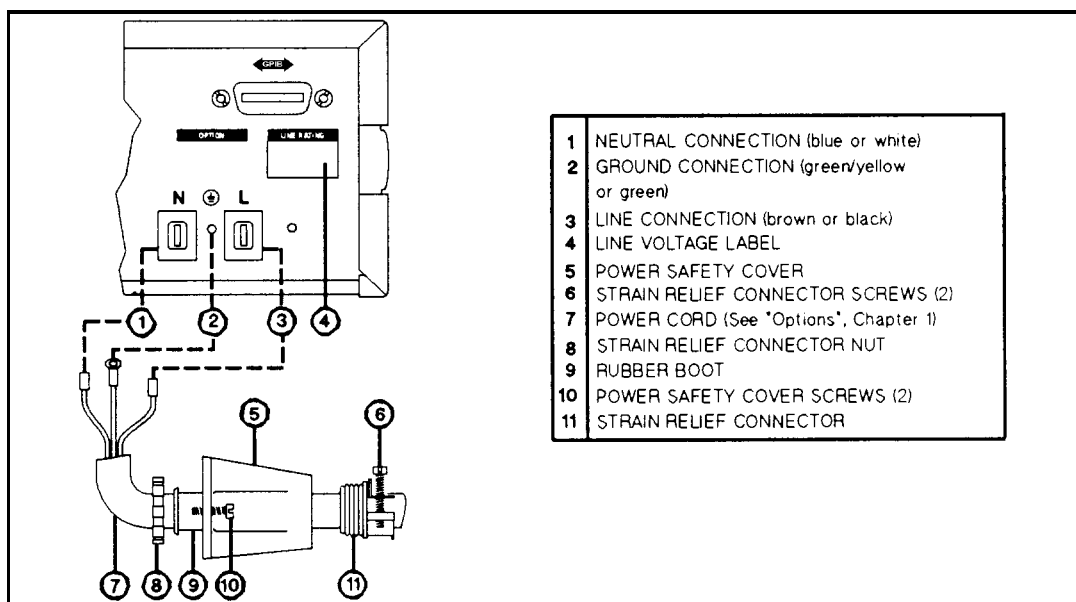

Figure 2-2. Series 657xA Power Cord Installation
See Figure 2-2 and proceed as follows:
- I. Examine the Line Voltage label (4, Figure 2-2) and verify that the line voltage rating agrees with your power source. If it does not, see Appendix B.